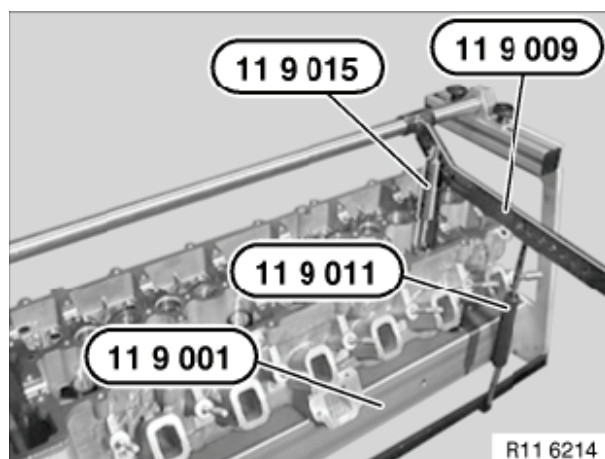

Figure 5-22
5. Secure cylinder head to special tool OEM No. 11 9 001 (**Figure 5-22**).